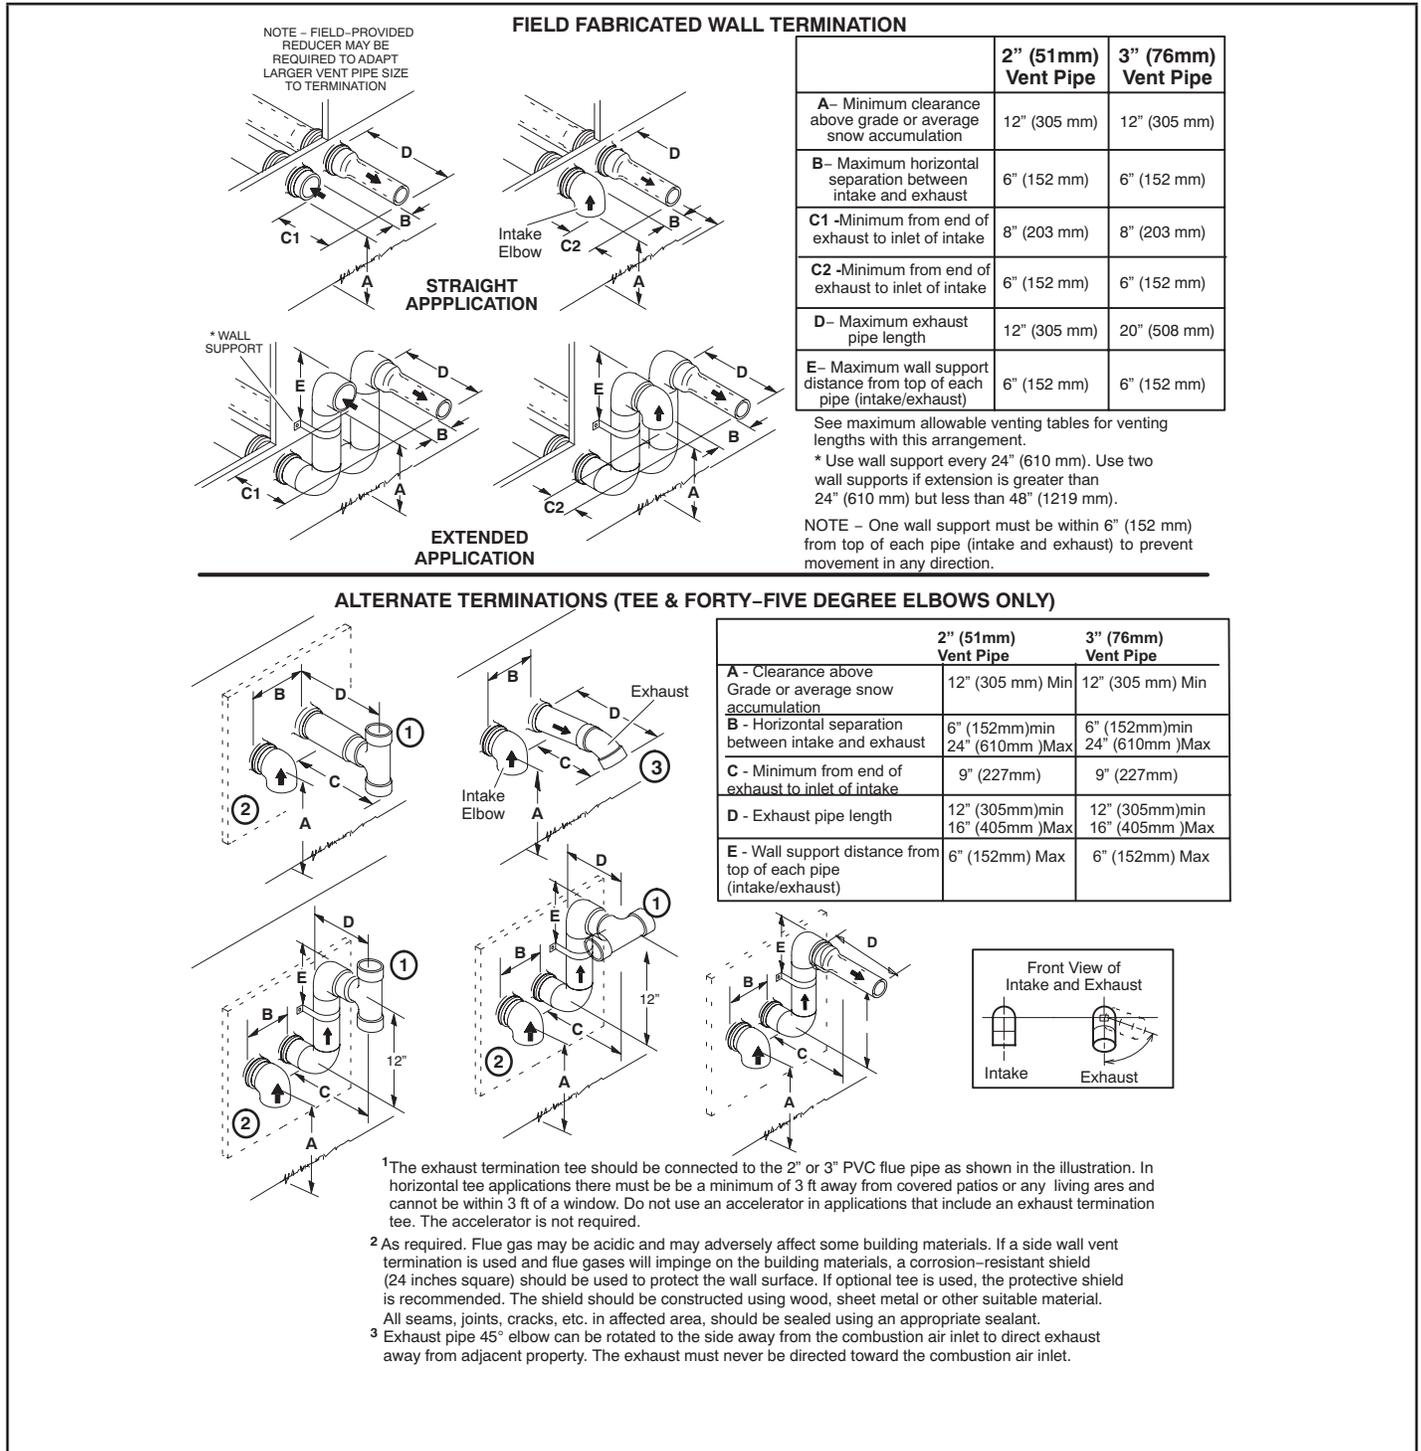

FIGURE 37
NOTE - Flue gas may be slightly acidic and may adversely affect some building materials. If any vent termination is used and the flue gasses may impinge on the building material, a corrosion-resistant shield (minimum 24 inches square) should be used to protect the wall surface. If the optional tee is used, the protective shield is recommended. The shield should be constructed using wood, plastic, sheet metal or other suitable material. All seams, joints, cracks, etc. in the affected area should be sealed using an appropriate sealant. See FIGURE 37.
- 5 - On field-supplied terminations for side wall exit, exhaust piping may extend a maximum of 12 inches (305mm) for 2" PVC and 20 inches (508mm) for 3" (76mm) PVC beyond the outside wall. Intake piping should be as short as possible. See FIGURE 37.
- 6 - On field supplied terminations, a minimum distance between the end of the exhaust pipe and the end of the intake pipe without a termination elbow is 8" and a minimum distance of 6" with a termination elbow. See FIGURE 37.
7 - If intake and exhaust piping must be run up a side wall to position above snow accumulation or other obstructions, piping must be supported. At least one bracket must be used within 6" from the top of the elbow and then every 24" (610mm) as shown in FIGURE 37, to prevent any movement in any direction. When exhaust and intake piping must be run up an outside